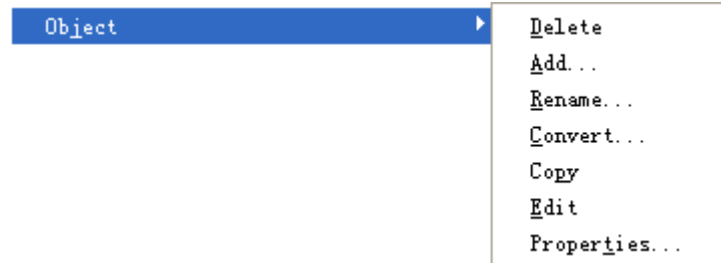

Figure 2-3-4 Object Sub-menu
- **Project [P]/Object [J]:** Delete, add, rename, convert, copy, edit or modify properties of the selected object, as shown in figure 2-3-4.